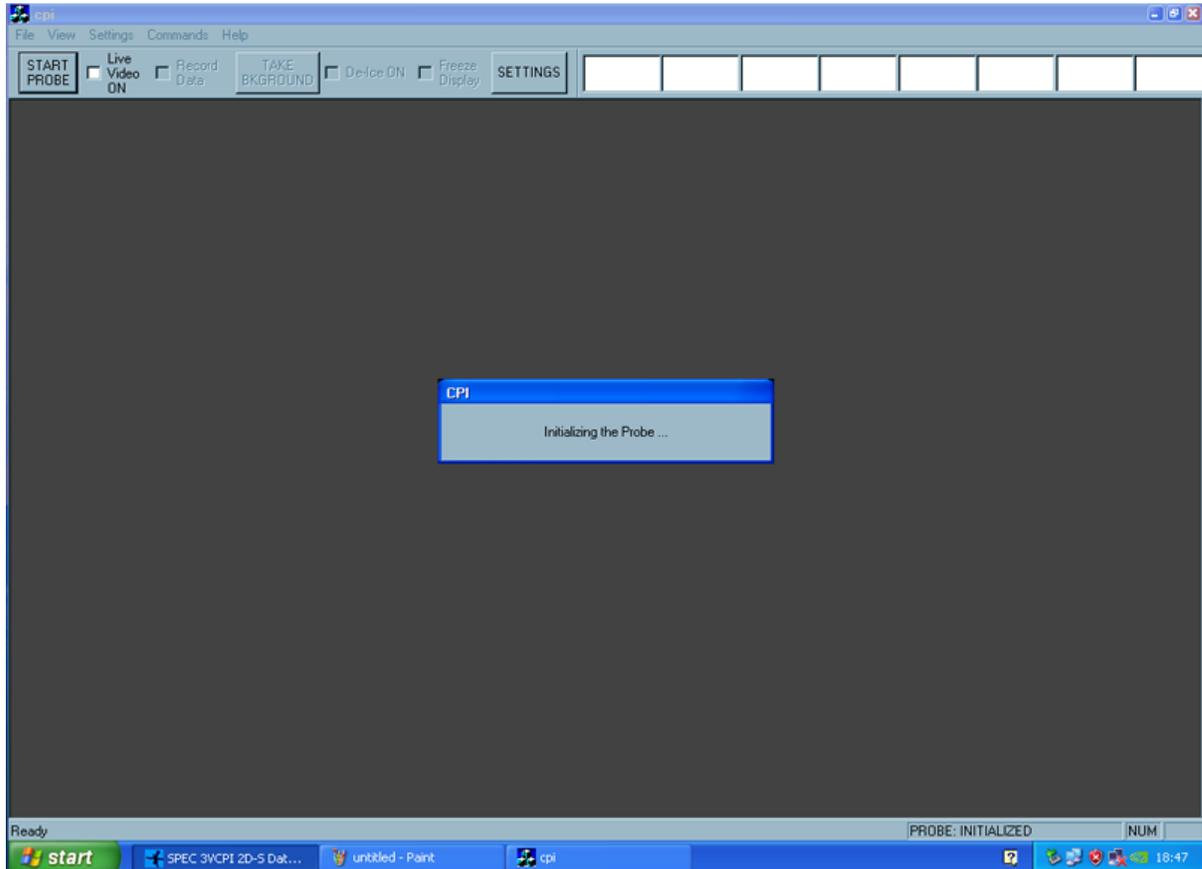

Figure 2.3.4. CPI GUI screen while it is initializing the probe.
7. After about forty seconds, the message window should change to “Initializing the Probe...” as shown in **Figure 2.3.4**. In this step, the CPI GUI tries to communicate with the probe. If it is successful, it sets up probe operating values, receives data packets from the probe, directs the CCD camera to take two background images, and processes those images to establish a background reference for the probe’s imaging system.